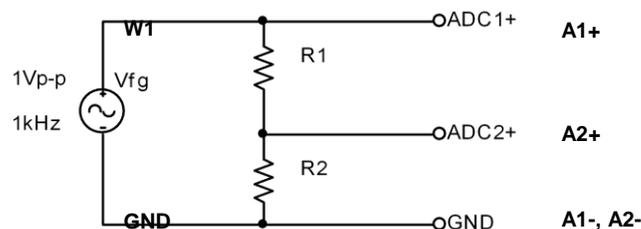

Figure B-6.
- Use the signal generator, W1, of the M2K to put an AC signal on a resistor divider circuit as shown in Figure B-6. Set the Signal Generator frequency to 1 kHz and Amplitude to 0.5 V (since the goal is 1 V_{p-p}). Use $R_1 = 1 \text{ k}\Omega$ and $R_2 = 1 \text{ k}\Omega$. Measure the voltages and compare with those you would expect theoretically.